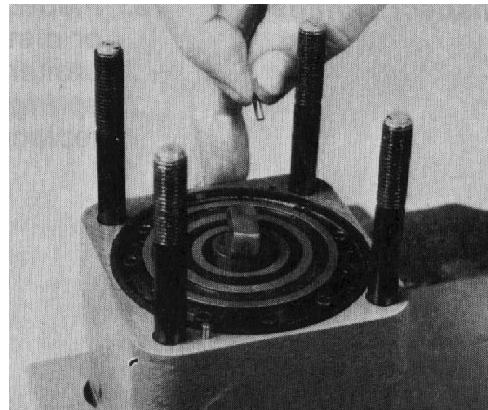

Figure 40
21. Remove the two isolation manifold-metering ring alignment pins (Fig. 40).